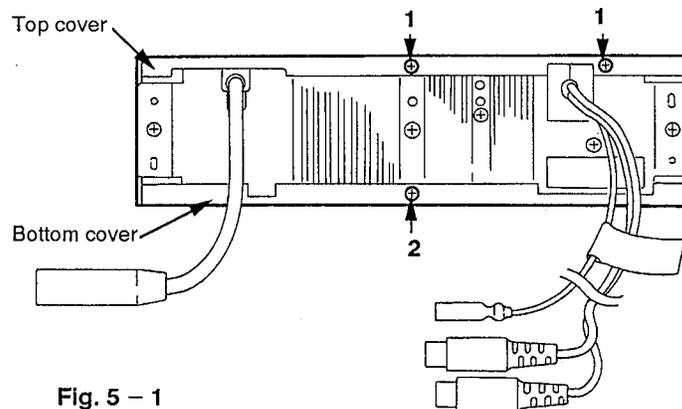
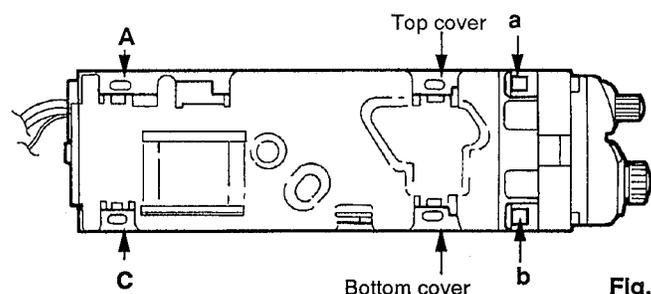

Fig. 5-1
Fig. 5-2
■ Method of removing the top cover (Refer to Fig. 5-1)
1. From the back of the body, remove the two screws (1) retaining the top cover.
■ Method of removing the bottom cover (Refer to Fig. 5-1)
1. From the back of the body, remove the one screw (2) retaining the bottom cover similarly according to the top cover removing method.
■ Method of removing the front panel (Refer to Figs. 5-2 and 5-3)